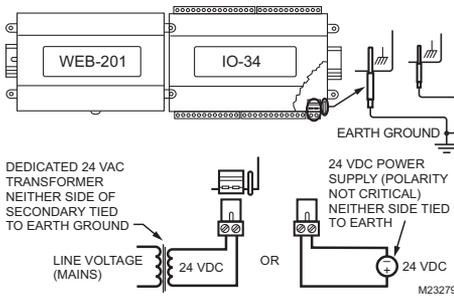

Fig. 3. IO-34-H earth ground connection.
The IO-34-H module provides 16 universal inputs supporting analog inputs (temperature, resistance, voltage and current) and digital inputs (contact closure, pulse count) and 18 outputs: 10 relay (24 Vac/cd, 0.5 A max.) outputs and 8 analog outputs (0-10 Vdc). Wiring terminal positions are shown in Fig. 3 along with LED locations.
See Fig. 3 to locate connectors and other components on the controller.
A yellow LED status indicator for each relay (D1 - D10) is located on the board (Fig. 3), and also visible through the cover. Under normal operation, each digital status LED indicates activity as follows:
NOTE: Any time a powered IO module's status LED is not lit, all outputs are in "failsafe" state (all relay outputs OFF, and all AOs are at a 0-volt level). See Fig. 3 for location of the IO-16-H status LED.
1. Plug in the 24 V connector plug to apply power. The IO-34-H board and status LED will initially be Off (Fig. 3), but the Power LED on the IO-34-H should be lit. Allow the controller sufficient time to boot (at least 2 minutes).